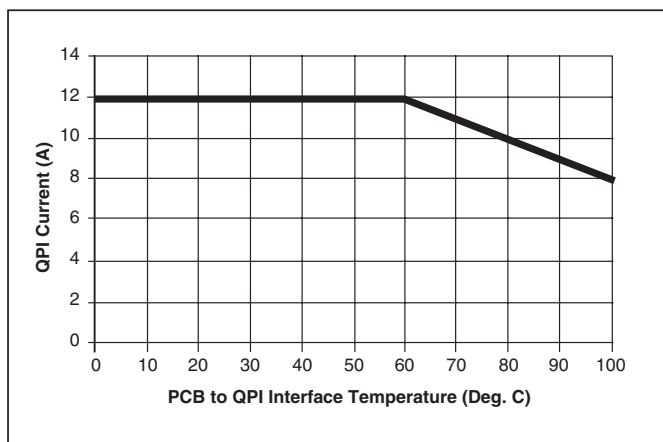

Figure 5 – QPI-2 current derating curve.
- -40° to +100°C PCB temperature (See Fig. 5)
**Note 2** - Refer to Figure 5 for current derating curve.
The current derating curve shown in *Figure 5* should be used when the PCB temperature in close proximity of the QPI-2 exceeds 60°C. For example, the QPI-2 will support up to 10 A of current or 280 W from a 28 Vdc bus at an 80°C interface temperature. Temperature should be measured at the PCB interface to the QPI-2 on the Bus +/- pads or the QPI+/- pads. Refer to *Figures 9, 10 & 12* for PCB layout recommendation.